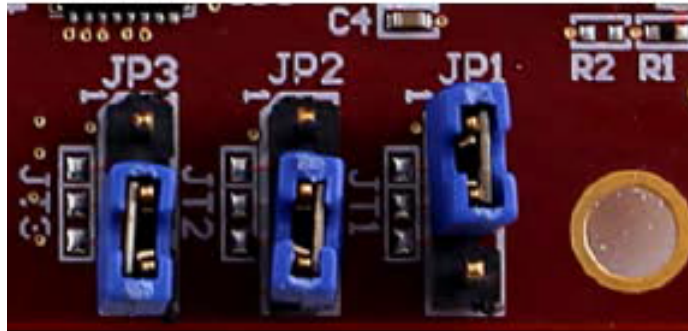

Figure 12: **Boot Mode Jumper Settings for SD Card Boot**
1. To boot from the Micro SD Card, ensure the mode pins on the MicroZed board are connected as shown in Figure 12.